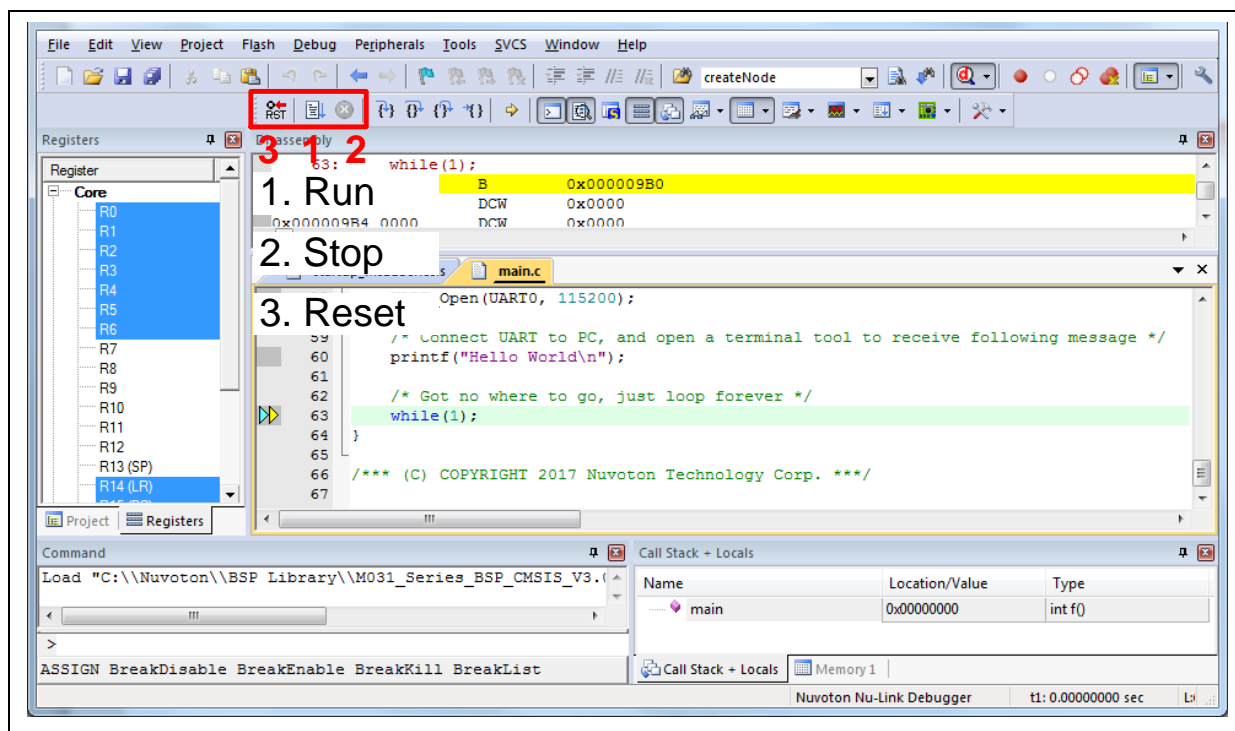
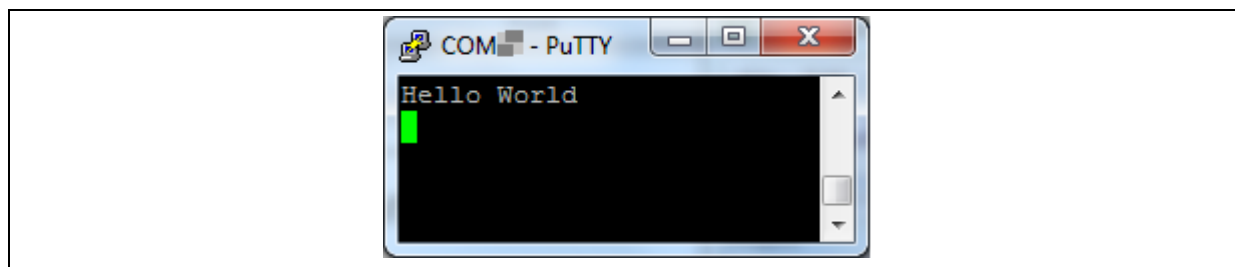

Figure 3-13 Keil MDK Debug Mode
Figure 3-14 Debug Message on Serial Port Terminal Windows
4. Figure 3-13 shows the debug mode under Keil MDK. Click “Run” and the debug message will be printed out as shown in Figure 3-14. User can debug the project under debug mode by checking